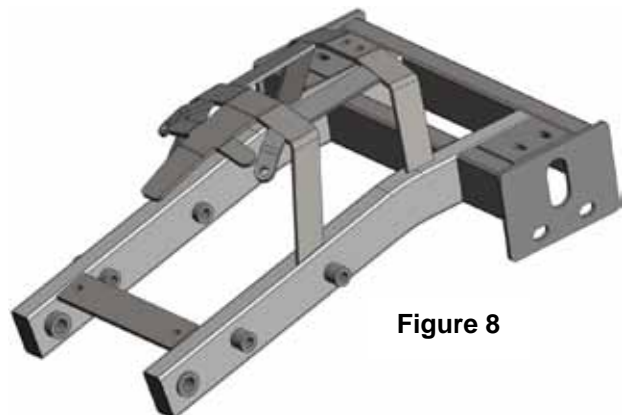

Figure 8
- a. Install Top Frame to OEM frame using supplied hardware. See Figure 8